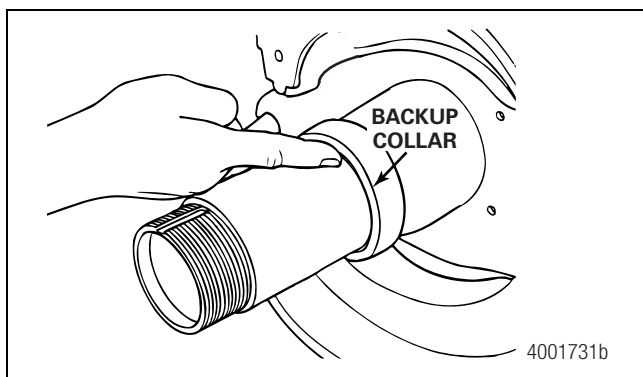
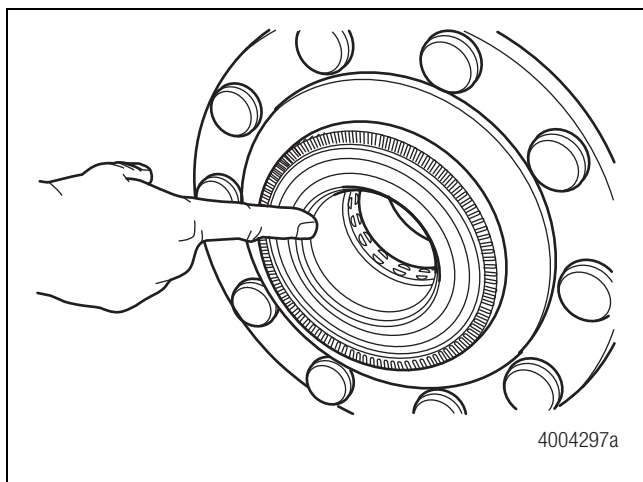

Figure 3.22
Figure 3.23
3. Use your finger to verify that the hub side of the axle backup collar and the edge of the hub that contacts the backup collar are clear of debris. Figure 3.22 and Figure 3.23.